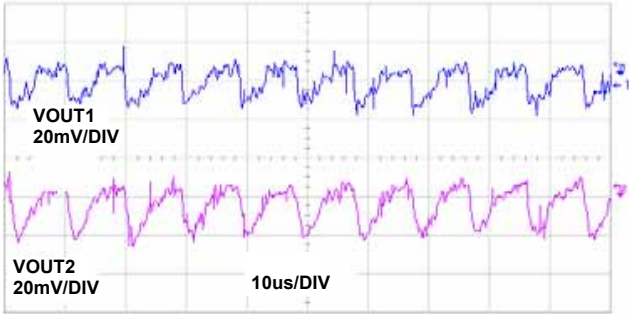

FIGURE 2. OUTPUT 1 AND 2 RIPPLE VOLTAGE
**Output Ripple** - Figure 2 shows the output voltage ripple for VOUT1 and VOUT2 both at 100mA load.